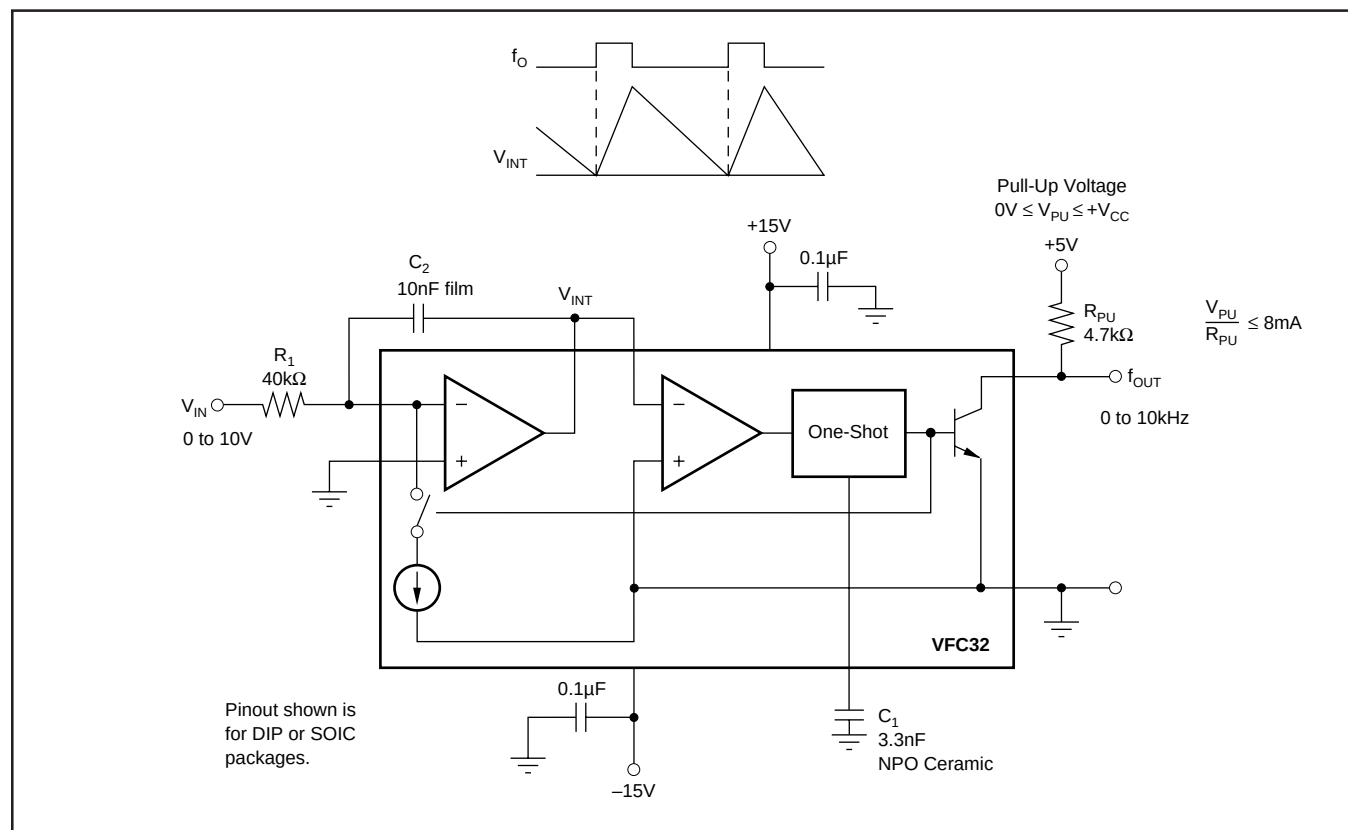
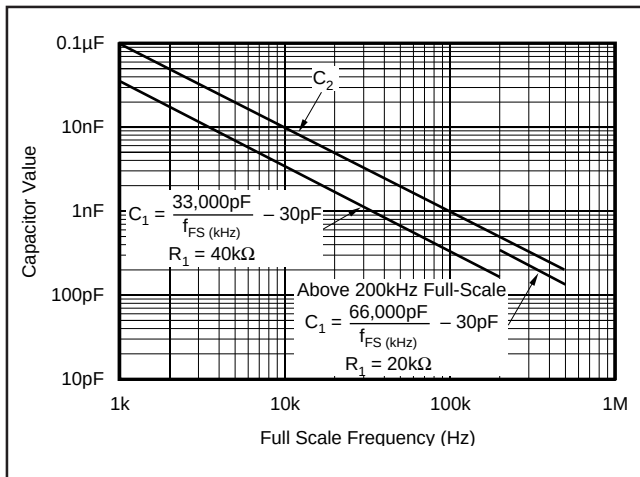
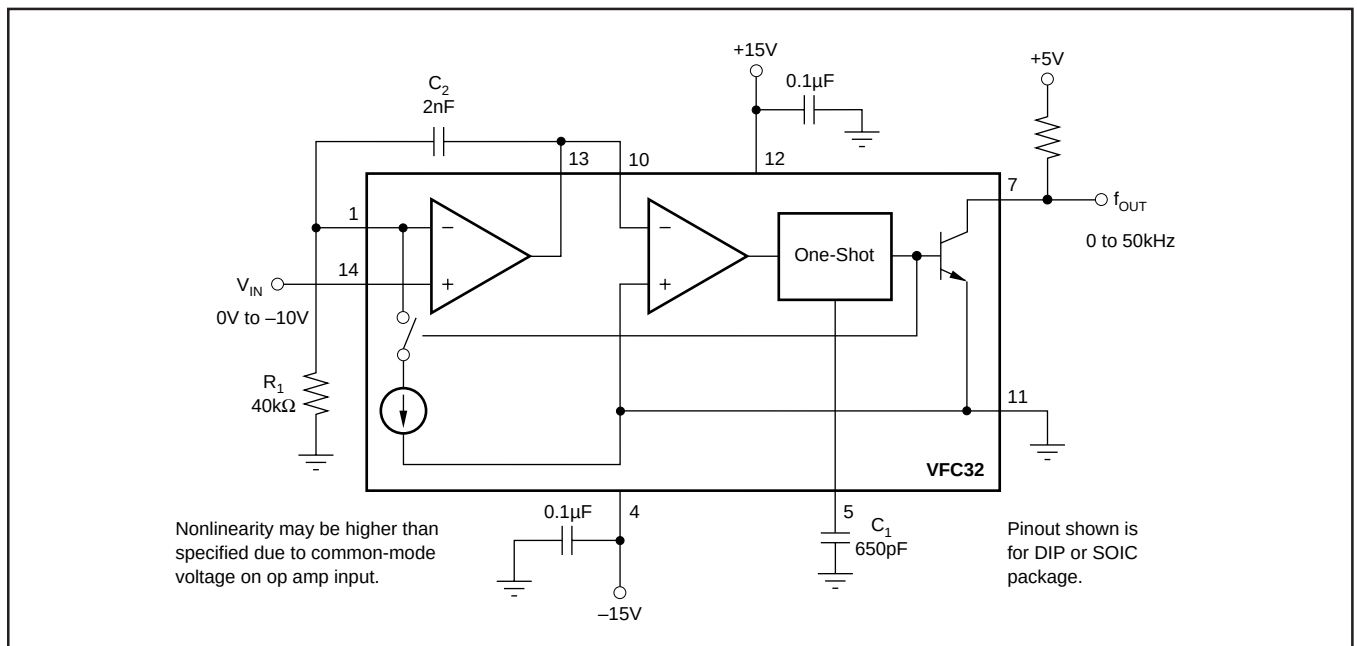

FIGURE 1. Voltage-to-Frequency Converter Circuit.
FIGURE 2. Capacitor Value Selection.
FIGURE 5. V/F Converter—Negative Input Voltage.
NOTES: (1) A 25% duty cycle (0.25mA input current) is recommended for best linearity. (2) Adjustable to zero. See Offset and Gain Adjustment section. (3) Linearity error is specified at any operating frequency from the straight line intersecting 90% of full scale frequency and 0.1% of full scale frequency. See Discussion of Specifications section. Above 200kHz, it is recommended all grades be operated below +85 $^{\circ}\text{C}$. (4) $\pm 0.015\%$ of FSR for negative inputs shown in Figure 5. Positive inputs are shown in Figure 1. (5) FSR = Full Scale Range (corresponds to full scale frequency and full scale input voltage). (6) Exclusive of external components' drift. (7) Positive drift is defined to be increasing frequency with increasing temperature. (8) For operations above 200kHz up to 500kHz, see Discussion of Specifications and Installation and Operation sections. (9) One pulse of new frequency plus 1 μs .
Figure 1 shows the basic connection diagram for frequency-to-voltage conversion. R_1 sets the input voltage range. For a 10V full-scale input, a 40k Ω input resistor is recommended. Other input voltage ranges can be achieved by changing the value of R_1 .
The full-scale output frequency is determined by C_1 . Values shown in Figure 1 are for a full-scale output frequency of 10kHz. Values for other full-scale frequencies can be read from Figure 2. Any variation in C_1 —tolerance, temperature drift, aging—directly affect the output frequency. Ceramic NPO or silver-mica types are a good choice.
For full-scale frequencies above 200kHz, use larger capacitor values as indicated in Figure 2, with $R_1 = 20\text{k}\Omega$.
The value of the integrating capacitor, C_2 , does not directly influence the output frequency, but its value must be chosen within certain bounds. Values chosen from Figure 2 produce
approximately 2.5Vp-p integrator voltage waveform. If C_2 's value is made too low, the integrator output voltage can exceed its linear output swing, resulting in a nonlinear response. Using C_2 values larger than shown in Figure 2 is acceptable.
The value of C_1 is chosen from Figure 2 according to the full-scale input frequency. C_2 smooths the output voltage waveform. Larger values of C_2 reduce the ripple in the output voltage. Smaller values of C_2 allow the output voltage to settle faster in response to a change in input frequency. Resistor R_1 can be trimmed to achieve the desired output voltage at the full-scale input frequency.